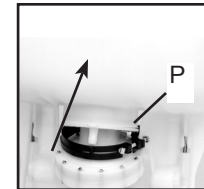

Figure 10.
11. Lubricate the large O-ring and then push the pressure cylinder into the tank being careful not to pinch the large O-ring (P). Note: Wooden block may also be used for installation of the pressure cylinder. Figure 10.